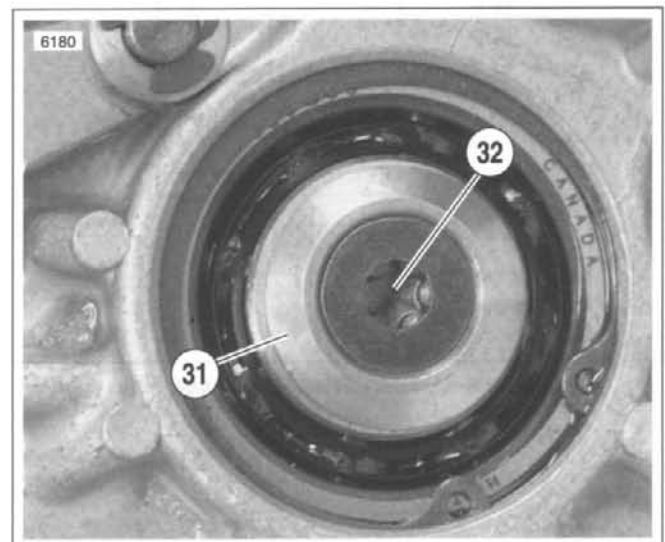

Figure 6-50.
19. See Figure 6-50. At outside of access door, position retention collar (31) next to end of countershaft with beveled side facing outward. Apply a few drops of LOCTITE THREADLOCKER 243 (blue) to the threads of TORX screw (32). Insert TORX screw (32) through retention collar and thread into end of shaft. Place transmission in gear and tighten TORX screw to 13-17 ft-lbs (17.6-23.0 Nm).